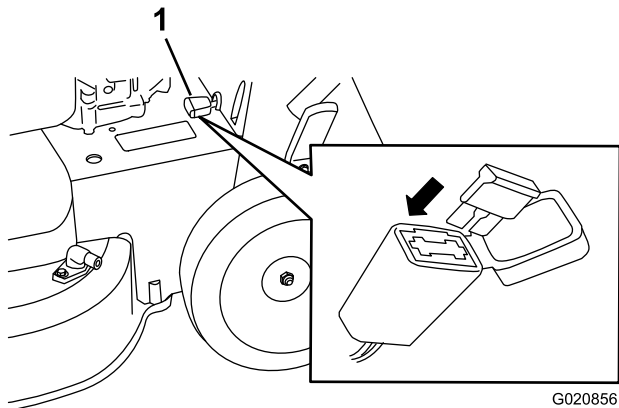

Figure 32
1. Open the sealed fuse holder and replace the fuse (Figure 32).